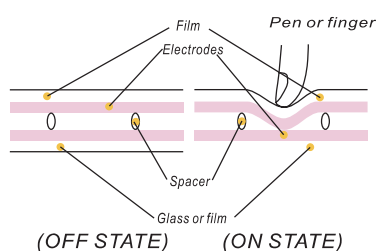
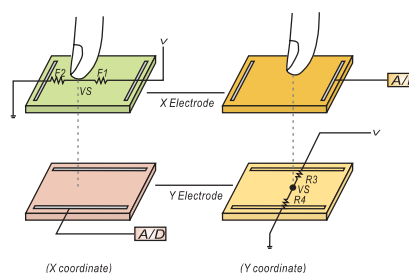

Fig2
Fig3
- The touch panel has as numerous push-button switches as the keys arranged in a matrix (see fig 2). To locate the x and y coordinates, voltage V_x taken from the y electrode and voltage V_y taken from the x electrode are converted into digital data and assigned coordinates (see fig 3).